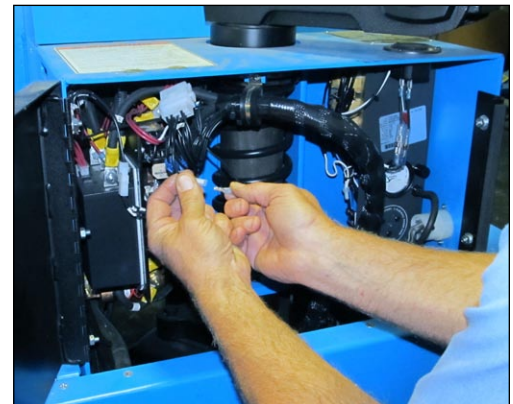

Figure 4.2
4. Connect top left wires (figure 4.2)